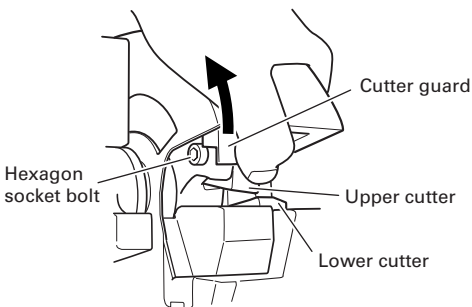

Fig. 7
- (1) Pull the switch lightly and let the upper cutter move slowly. When the hexagon socket bolt that fixes the upper cutter comes out of the cam cover, turn the switch OFF and stop the motor.
- (2) Unplug the power cord from the receptacle.
- If you remove the hexagon socket bolt using the provided Allen key, you can remove the cutter. (Pushing the cutter guard up in the direction of the arrow shown in Fig. 7, facilitates removal of the upper cutter.)